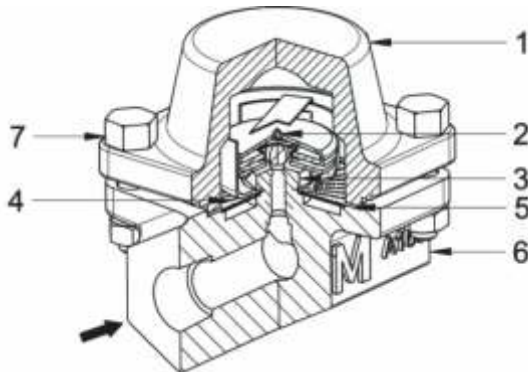

Figure 3: Forbes Marshall Air Vent [FMAV53]
4.1 Operations of Forbes Marshall Air Vent [FMAV53] : [Refer figure.3]
7.4. Procedure to fit or replace thermopod and seat assembly: [Refer figure 3]
7.5. Procedure to clean or replace the strainer screen: [Refer figure 3]